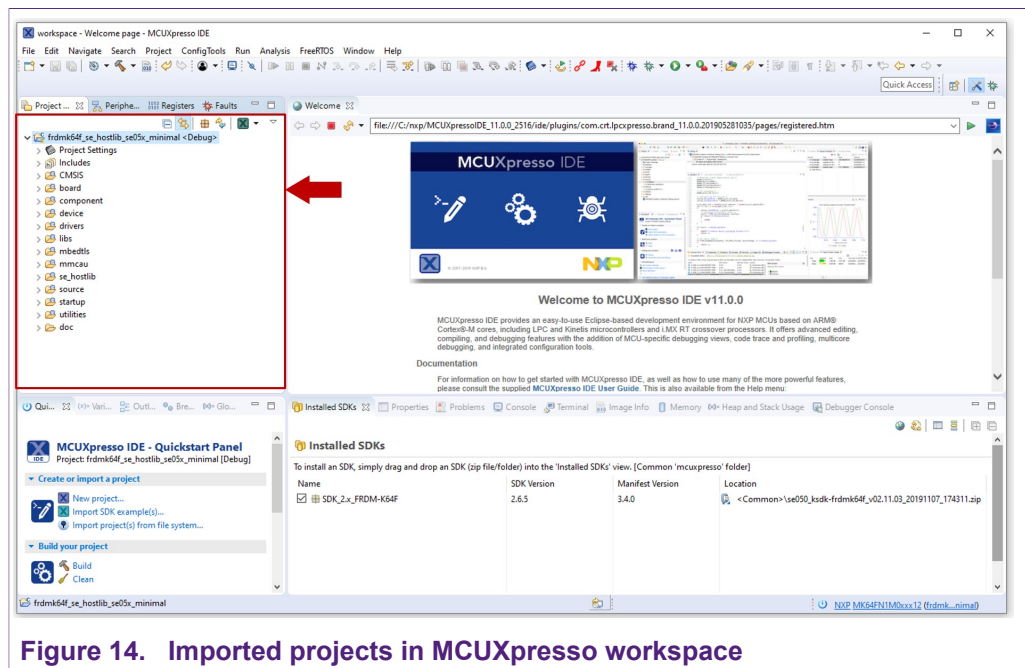

Figure 14. Imported projects in MCUXpresso workspace
- The projects you selected should now be visible in your MCUXpresso workspace as shown Figure 14: